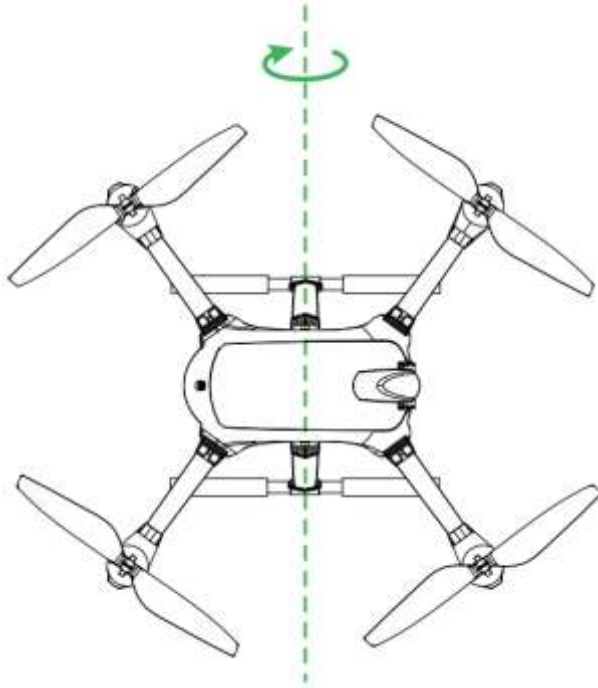

Figure 3-35
Step 4 Keep the aircraft vertical and rotate it for one circle vertically, as shown in Figure 3-35.